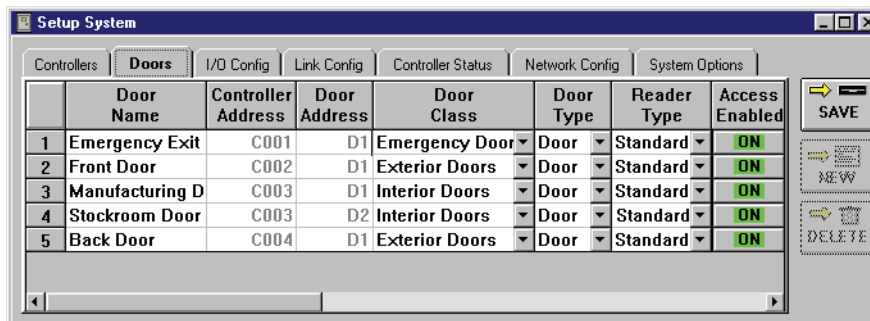

Figure 3-21: Assigning Door Classes
5. The resulting window should look similar to Figure 3-21.
1. To assign a door type, click on the Setup ⇒ System pull-down menu or click on the  tool bar button. Then click on the **Doors** tab (see Figure 3-21 on page 28 of this section).
1. To assign a reader type, click on the Setup ⇒ System pull-down menu or click on the  tool bar button. Then click on the **Doors** tab (see Figure 3-21 on page 28 of this section).
- To disable/enable access through a door, click on the Setup ⇒ System pull-down menu or click on the  tool bar button. Then click on the **Doors** tab (see Figure 3-21 on page 28 of this section).
- Enabling access through a door is simply the opposite of disabling access through a door. Locate the door to have access enabled. Click on the  button corresponding to the selected controller/door. The  button will toggle to . The window should again appear similar to the window in Figure 3-21 on page 28 of this section.